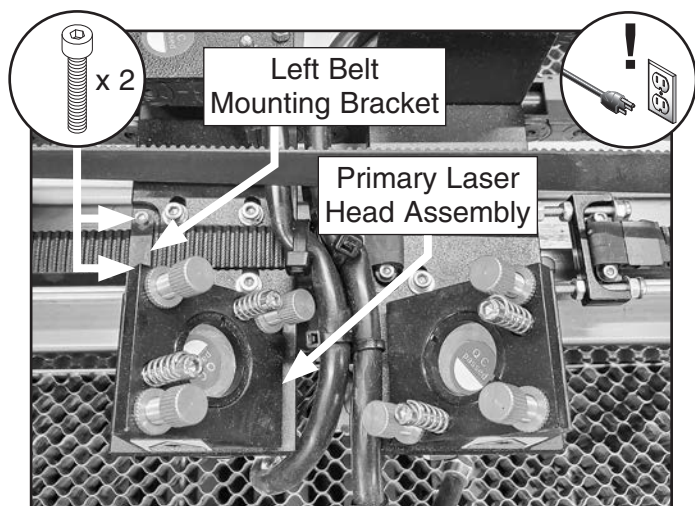

Figure 50. Left belt mounting bracket location.
2. Open top loading door and loosen (2) cap screws securing left belt mounting bracket on primary laser head assembly, position primary laser head assembly as desired, then secure cap screws (see **Figure 50**).